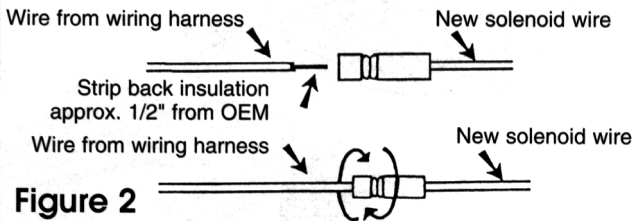

Figure 2
2. Each wire cut from the old solenoid must be stripped back approx. 1/2" and the braided wire twisted to form a tight strand, (Figure 2). Loosen the Posi-Lock™ Connectors. Insert the bare wire into the connector until it bottoms out. Tighten the connector. Repeat this procedure for all of the connections.